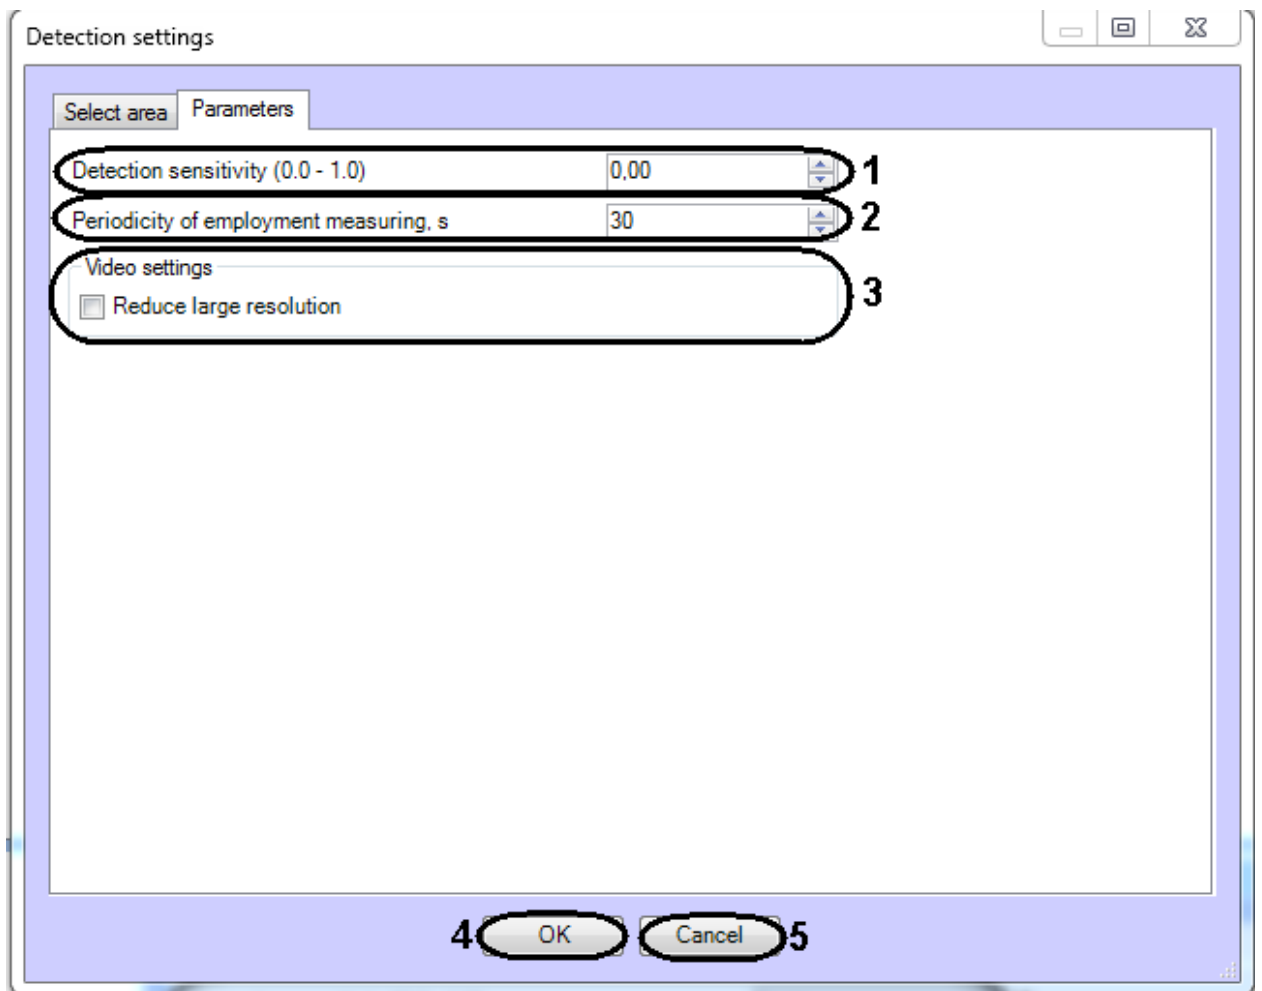

Fig. 6.1—6 Configuring the Queue length detection module parameters
- 4.3 In the **Periodicity of employment measuring, s** field, enter a time period in seconds for counting the number of persons in the observed area (see Fig. 6.1—6, 2).
- 4.4 Set the **Reduce large resolution** checkbox to create and process the new frame consist of even lines of initial frame (see Fig. 6.1—6, 3).